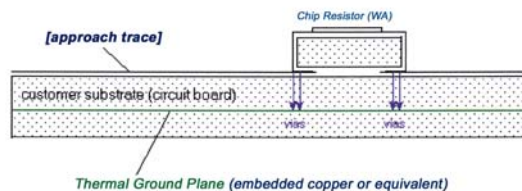

Figure 1
If the resistor is mounted to a surface that does not conduct heat well, such as a different ceramic, FR-4, or another circuit board material, ALN’s advantage disappears. A sufficient and typical method by which most manufacturers provide a heat sink or thermal ground is shown in **Figure 1**.
1. Replace the 2512 chip with an ALN 2512 chip, and maintain the temperature of the baseplate at a constant 120°C or cooler. This may be achieved with an arrangement similar to **Figure 1**. An even cooler temperature (cooler than 120°C) would allow the chip to dissipate even more than 10W; or,